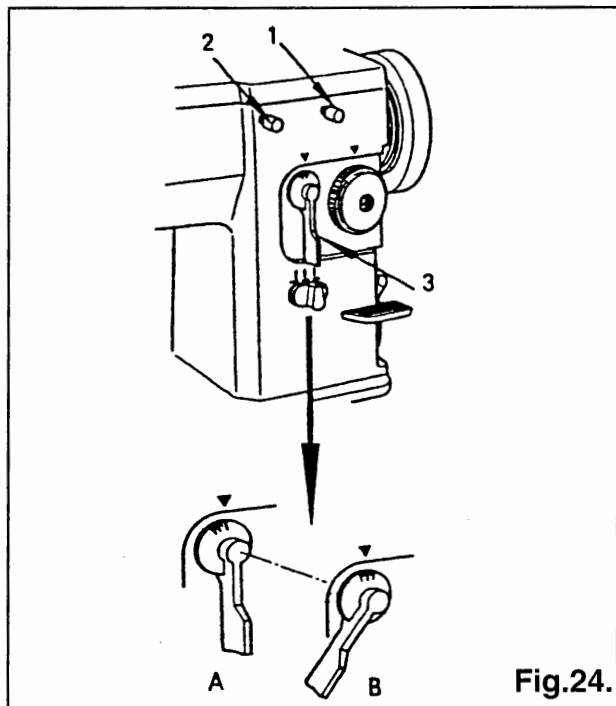

Fig. 24.
To obtain minimum to maximum width (20U73/73B:9mm. 20U83/83B:12mm) zigzag stitches, first loosen thumb screw (2), Fig. 24. to permit the stitch width regulator (3), Fig. 24 to return to its zero position (see A, Fig. 24) and retighten thumb screw (2).
Then loosen thumb screw (1), Fig. 24. turn stitch width regulator (3) clockwise as far as it will go and while holding the regulator (3) in this position (see B, Fig. 24), retighten thumb screw (1).